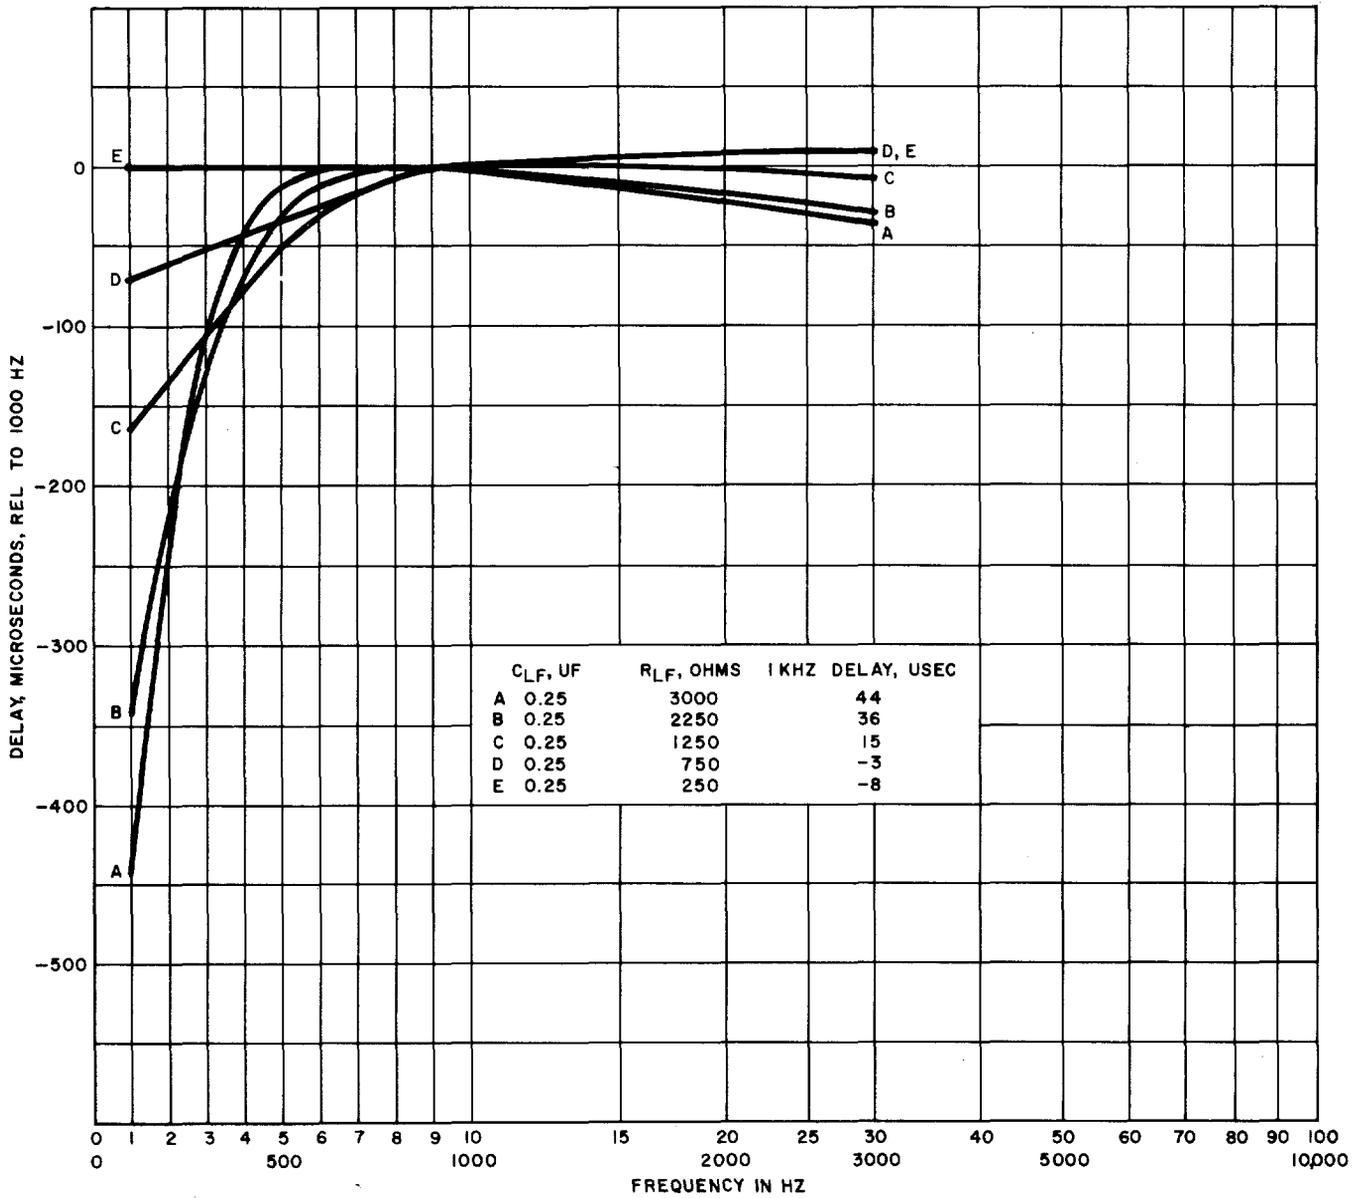
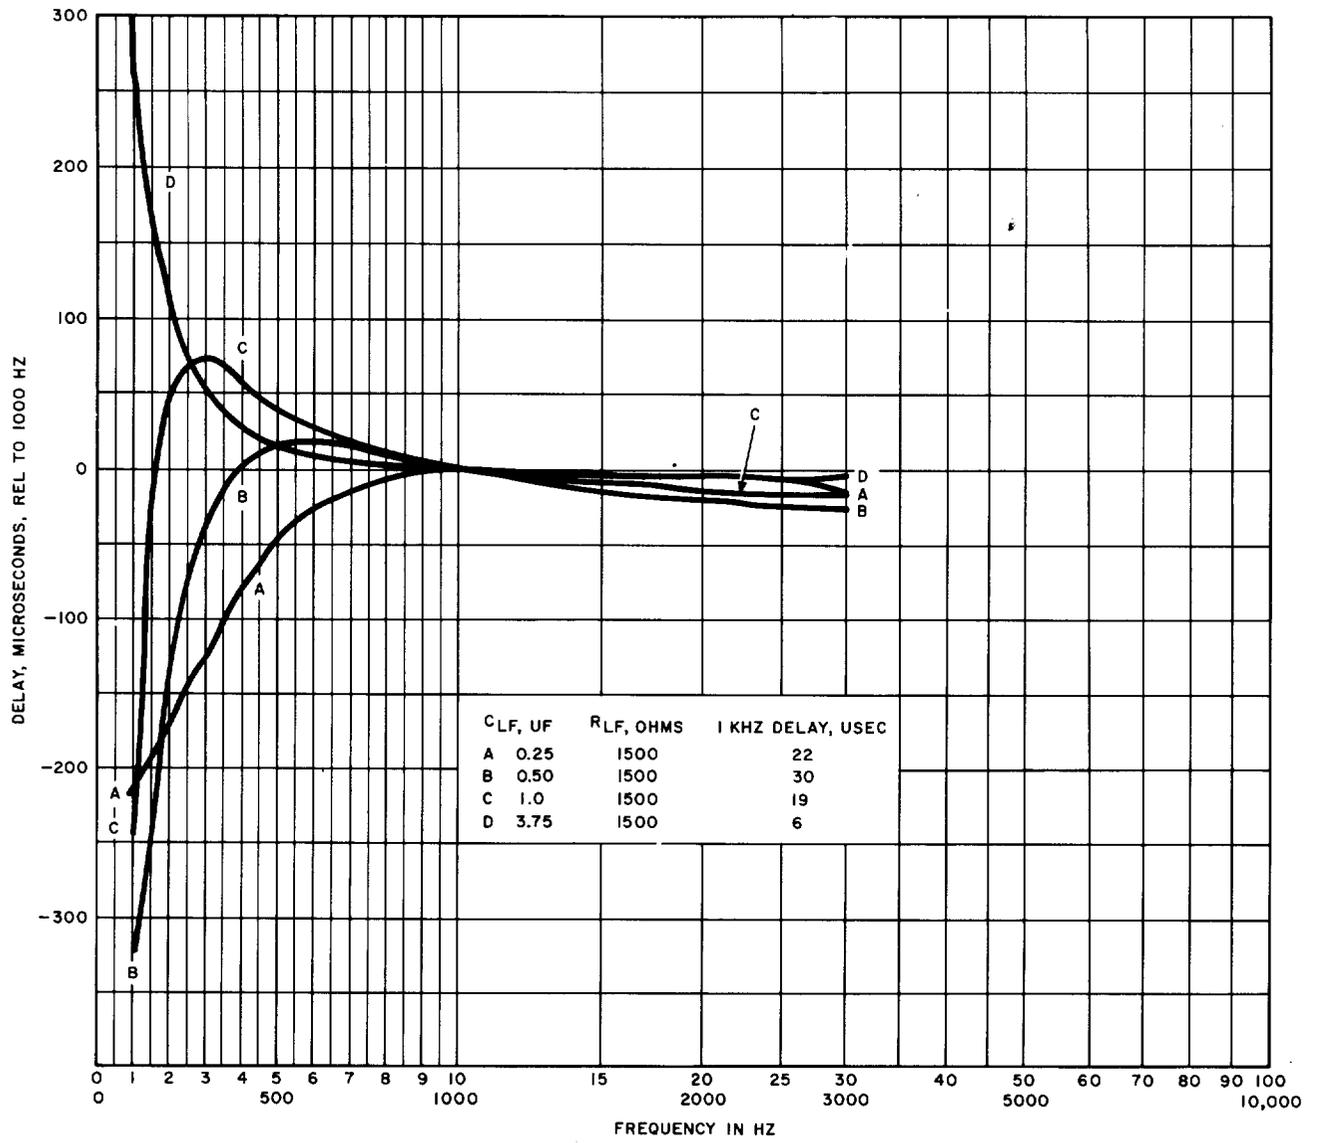

Fig. 7—359A Equalizer—Low-Frequency Section Delay-Frequency Characteristics Between 600 Ohms—Varying R_L for $C_L = 0.25 \mu F$
Fig. 8—359A Equalizer—Low-Frequency Section Delay-Frequency Characteristics Between 600 Ohms—Varying C_f for $R_{Lf} = 1500$ Ohms
3.07 While the series arm low-frequency components R_{LF} and C_{LF} provide compensation for amplitude distortion, they introduce delay distortion at the same time. Fig. 7 and 8 illustrate typical delay-frequency characteristics obtained by various combinations of C_{LF} and R_{LF} . Fig. 7 shows the results of keeping C_{LF} constant at 0.25 μ F and varying R_{LF} with the HF section out of the circuit; Fig. 8 shows the results of keeping R_{LF} constant at 1500 ohms and varying C_{LF} with the HF section out of the circuit.